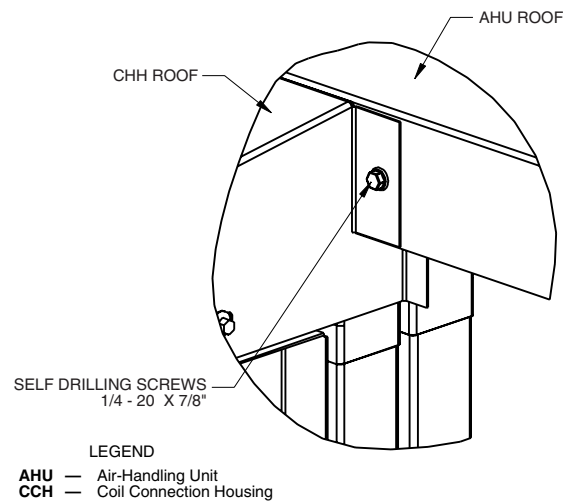

Fig. 45 — Secure Using Self-Drilling Screws
11. Also secure the coil connection housing roof to air-handling unit with self-drilling screws as shown in Fig. 45. Remove screws from the air-handling unit roof if they interfere with flush mounting of the coil connection housing to air-handling unit roof. When the coil connection housing is located on the low side roof, cut the seal strip at the slit and bend the tab in to create a better seal.